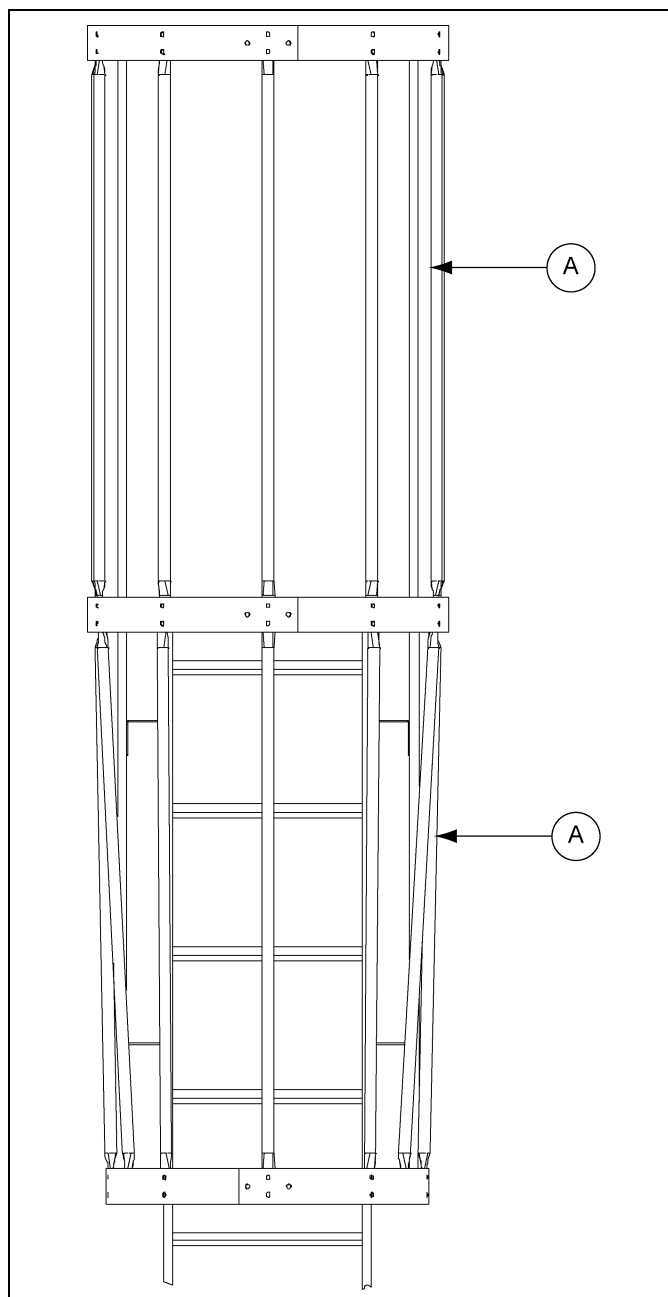

Figure 9F
After all three (3) hoop assemblies are in place, attach the 48" vertical supports from hoop assembly to hoop assembly as shown in Figure 9F. This requires fourteen (14) supports, seven (7) between each set of hoops. The second set of vertical supports must be bent at the flat area to allow for the tapering of the bottom hoop assembly. Use 5/16" x 1" bolts with the head of the bolt to the inside of the safety cage.